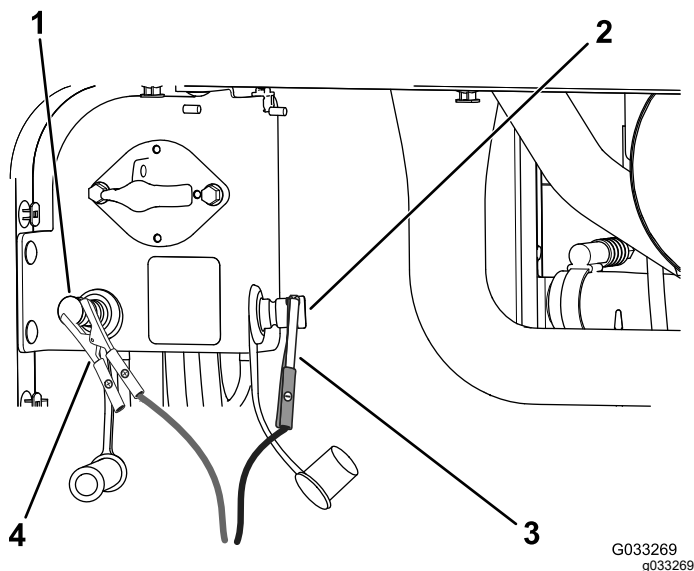

Figure 78
4. Connect the positive (+) jumper cable to the positive jump post (Figure 78).
- Connect the negative (-) jumper cable to the negative jump post (Figure 78).
- When the engine starts, have the other person disconnect the negative (-) jumper cable from the negative jump post and then disconnect the positive (+) jumper cable (Figure 78).